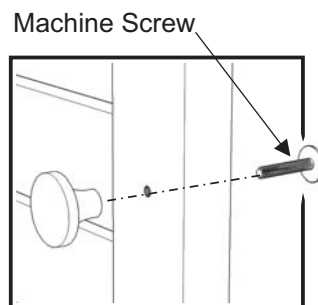

Figure 4
Assemble Pull Handles to Doors (M) and (N) with Machine Screws. (See Figure 4)